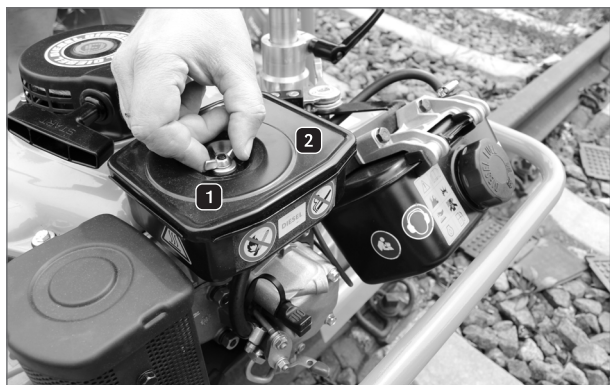

Figure 31: GP 4000 D – Check the air filter 1
2. Position the machine so that the air filter is in a horizontal position (see Figure 31 "GP 4000 D – Checking the air filter 1") and secure the machine against falling over.